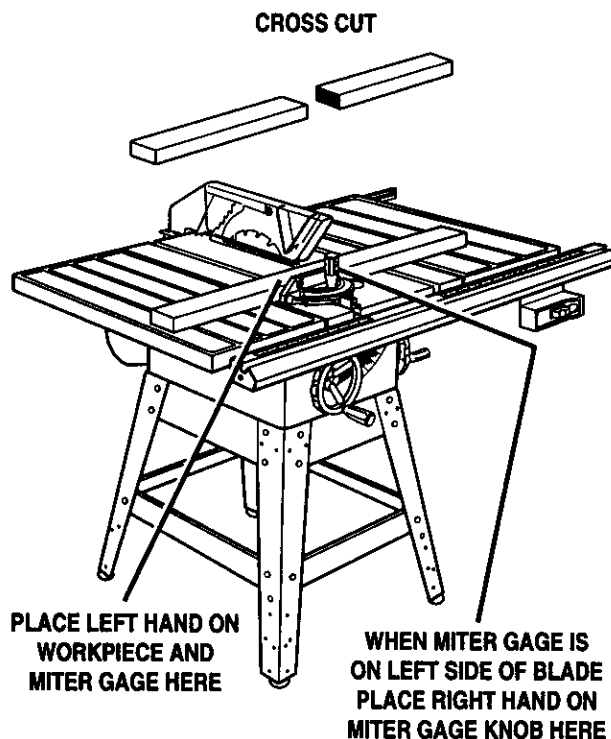

Fig. 44
See Figure 44.
- The miter gage may be used in either of the two grooves in the table. When using left groove, hold workpiece firmly against the miter gage base with your left hand and grip the knob with your right hand. When using the right groove, hold workpiece firmly against the miter gage base with your right hand and grip the knob with your left hand. See Figure 44.